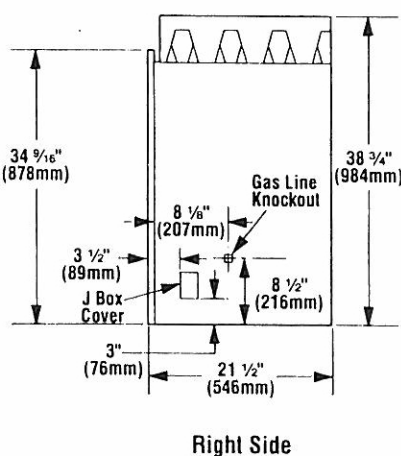

Figure 11
Step 5. Fireplace should be secured to side framing members using nailing flanges. Use 8d nails (Figure 11).